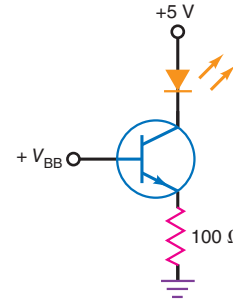

Figure 33-63
33.31 If the base supply voltage is 2 V in Fig. 33-63, what is the current through the LED?